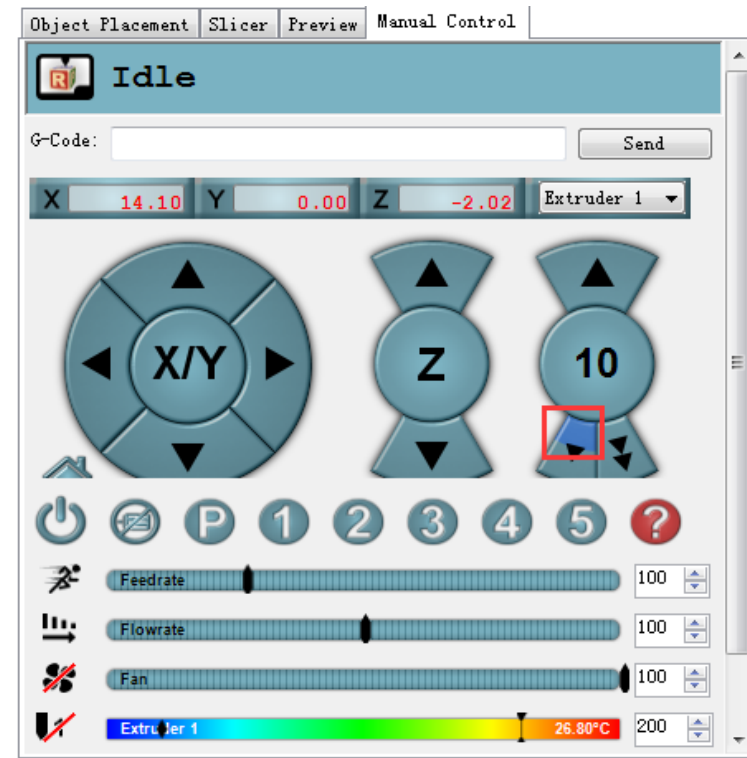

Figure 5.135 Extrude filament
2. Click the extruder feeder when the heating temperature is up to 200°C and feed up to 10mm-30mm, as shown in Figure 5.135.